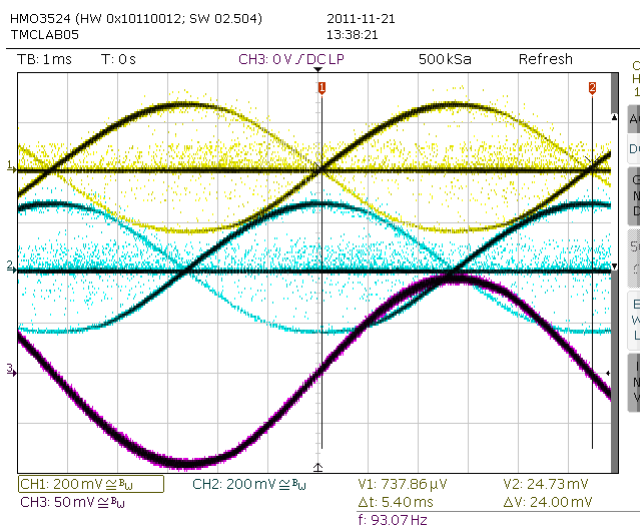
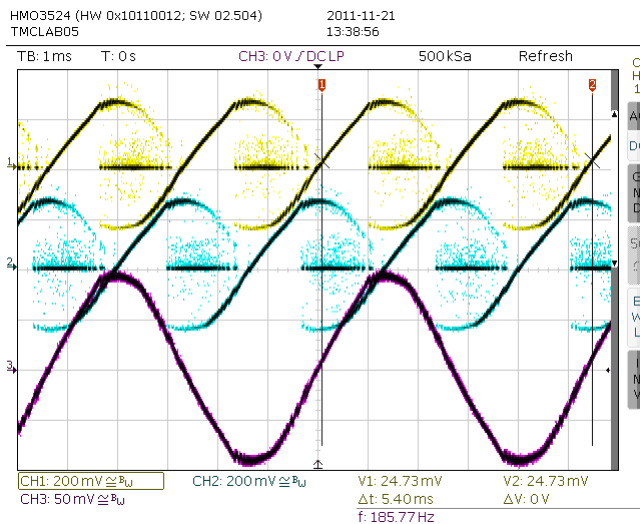
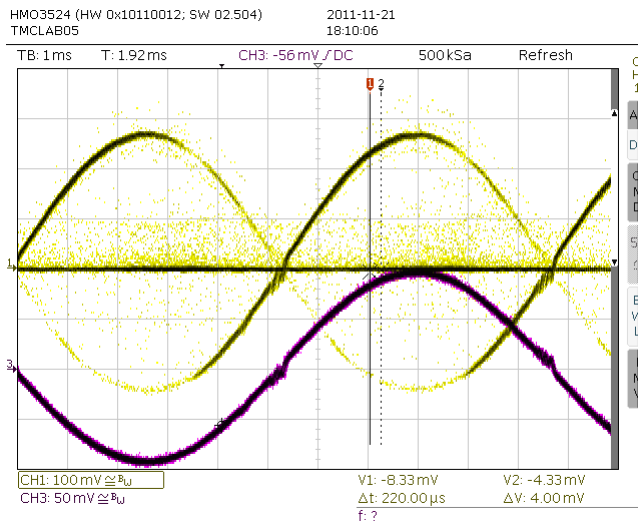

Figure 1 Current waves. CH1 & CH2: Sense resistor voltages, CH3: Current probe on coil A
Figure 2 Velocity too high – motor current cannot follow
Figure 3 Distortion caused by too low blank time setting TBL
You might want to check the current waveform using an oscilloscope. The oscilloscope should show a pure sine wave as shown in Figure 1. In case, the sine wave is distorted like shown in Figure 2, the motor velocity is too fast, or the supply voltage is not high enough. A distortion as shown in Figure 3 is a hint for a too low blank time setting. Increase *TBL* by one. Other distortions are a hint to a layout problem.
At high velocity, the motor resonance must be kept low, in order to maintain torque as high as possible. Microstep waveforms play a reduced role, as the waveform cannot be maintained in this velocity range anymore (see Figure 2), getting worse with each increase in velocity. Fullstepping sometimes brings a few percent increased motor torque. For high velocity behavior, it is more important to operate the motor with its application specific load or in its application environment, but you can do first tests by braking the motor with your fingers, in order to assess its torque before it stalls.
4. Figure out a velocity threshold *VHIGH* for switching to fullstepping. The threshold can be determined using an oscilloscope and finding the velocity, above which the microstep sine wave cannot be maintained, as shown in Figure 2, or, by assessing motor noise and vibration.